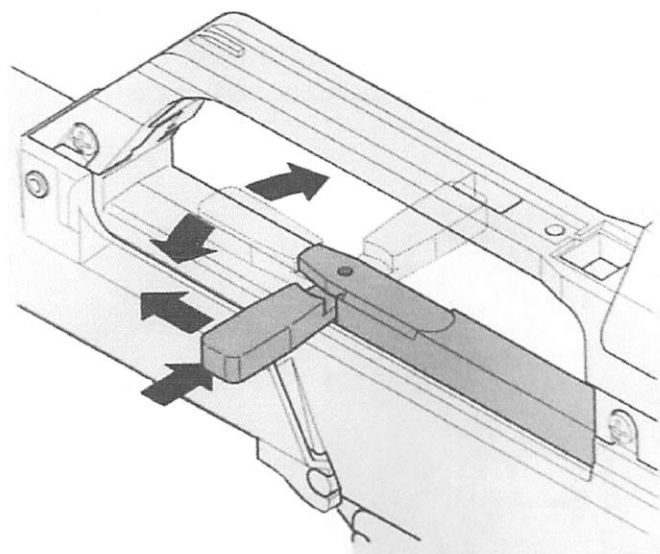

Fig. 12 Cocking lever swung outwards
- ⇒ Push cocking lever inwards until it engages (Fig. 12).